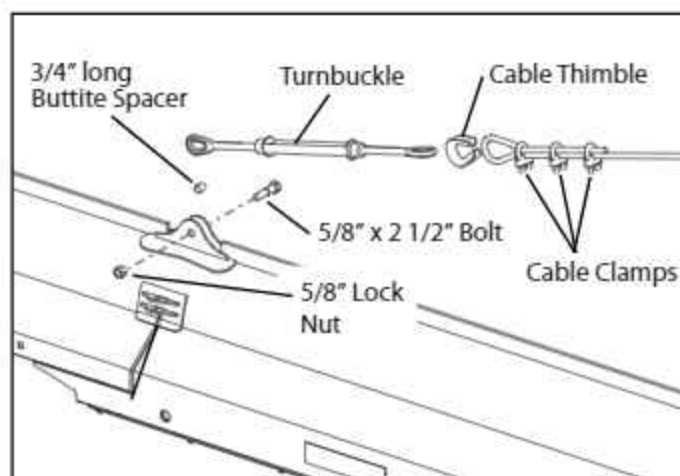

FIG. 3-26. Truss Cable Mounting
5. Extend a Turnbuckle to it's longest length. Attach one end to the mount on the top of the auger tube, where shown in Fig. 3-26. Use a 5/8" x 2 1/2" bolt, a Butt Tite Spacer and a 5/8" lock nut to secure in place.
8. While wearing gloves, pull the cable as tight as possible and install a clamp about 12" from the eye of the turnbuckle. Install a second clamp as close as possible to the cable thimble and the third half way between the other two. See Fig. 3-26 for the proper clamp orientation.
5. Extend a Turnbuckle to its longest length. Attach one end to the mount on the top of the auger tube, where shown in Fig. 3-26. Use a 5/8" x 2 1/2" bolt, a Butt Tite Spacer and a 5/8" lock nut to secure in place.
6. Extend a Turnbuckle to it's longest length. Attach one end to the mount on the top of the auger tube, where shown in Fig. 3-26. Use a 5/8" x 2 1/2" bolt, a Butt Tite Spacer and a 5/8" lock nut to secure in place.
9. While wearing gloves, pull the cable as tight as possible and install a clamp about 12" from the eye of the turnbuckle. Install a second clamp as close as possible to the cable thimble and the third half way between the other two. See Fig. 3-26 for the proper clamp orientation.